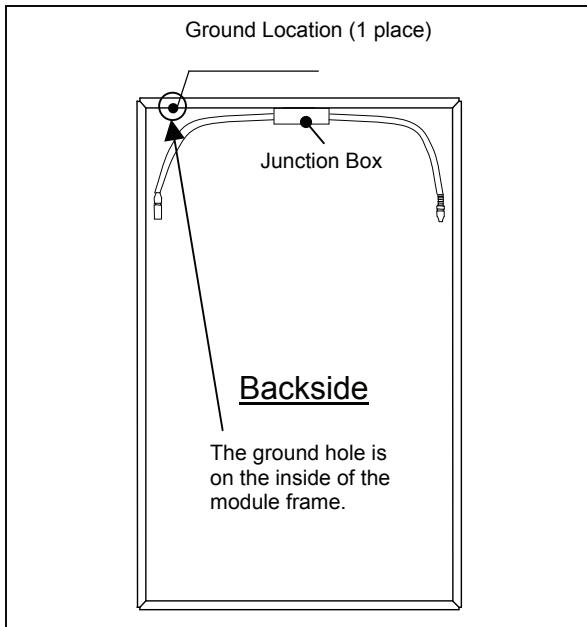

Figure 2. Module Ground Position
- Each framed module has a hole in the shorter side frame rail, to connect a grounding conductor to the module’s metal frame (see Figure 2).